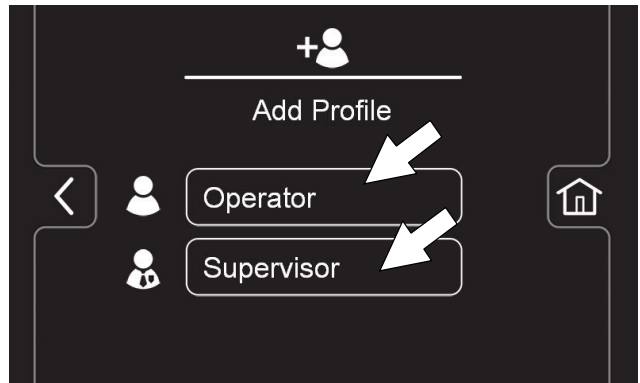

FIG. 153
3. Press the Operator button to add an Operator mode profile or press the Supervisor button to add an additional supervisor mode profile (Figure 153).